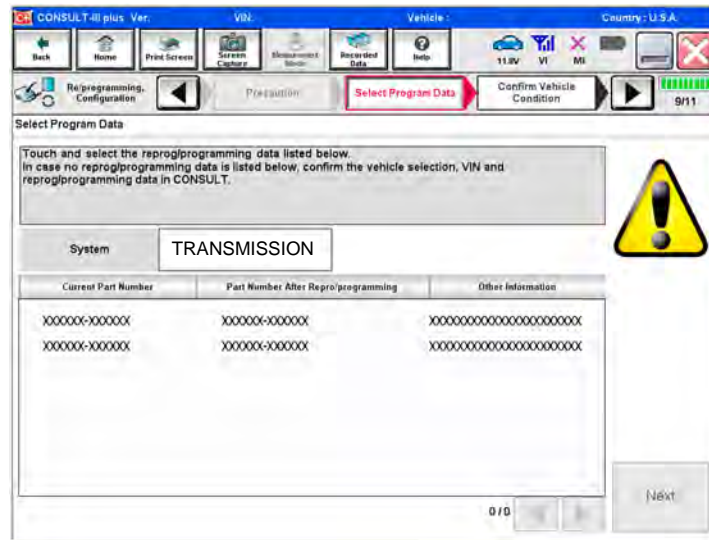

Figure 34
- If more than one new P/N is available, the screen in Figure 34 displays.